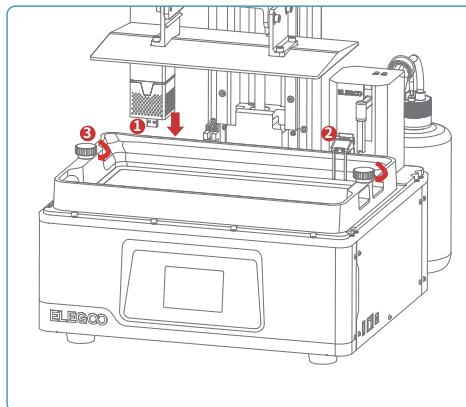

Figure 13
Plug the USB air purifier into the left-hand USB port (see Figure 13, ①). Insert the resin tank so that its inner edge presses the probe platen down until the probe is inside the tank (②), and tighten the screw knobs on both sides (③). Then slowly pour resin into the tank (do not exceed the MAX line), close the cover, insert the USB flash drive into the printer and select the pre-sliced test model to print it.